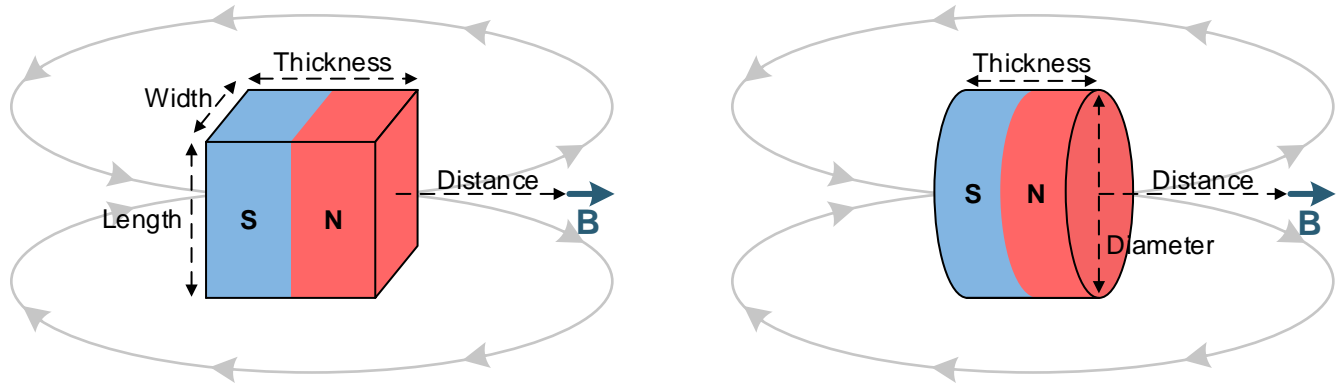

图 21. Rectangular Block and Cylinder Magnets
Magnets are made from various ferromagnetic materials that have tradeoffs in cost, drift with temperature, absolute maximum temperature ratings, remanence or residual induction (B_r), and coercivity (H_c). The B_r and the dimensions of a magnet determine the magnetic flux density (B) produced in 3-dimensional space. For simple magnet shapes, such as rectangular blocks and cylinders, there are simple equations that solve B at a given distance centered with the magnet. 图 21 shows diagrams for 公式 4 and 公式 5.
Use 公式 4 for the rectangular block shown in 图 21:
Use 公式 5 for the cylinder shown in 图 21: